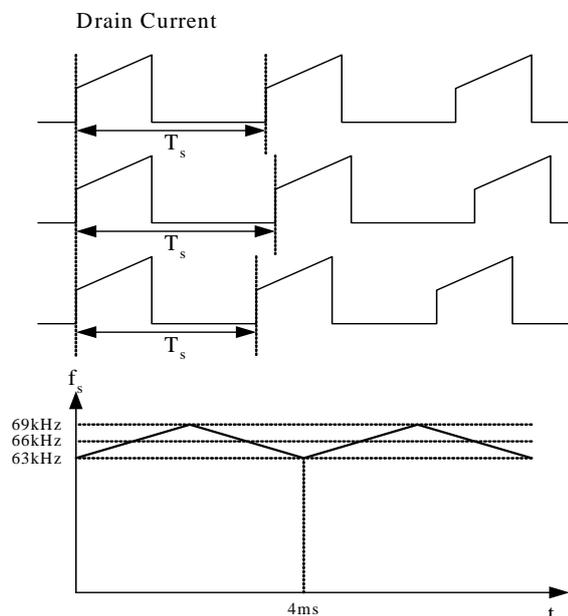

Figure 21. Frequency Modulation
4. Frequency Modulation: EMI reduction can be accomplished by modulating the switching frequency of a switched power supply. Frequency modulation can reduce EMI by spreading the energy over a wider frequency range than the band width measured by the EMI test equipment. The amount of EMI reduction is directly related to the depth of the reference frequency. As can be seen in Figure 21, the frequency changes from 63kHz to 69kHz in 4ms.